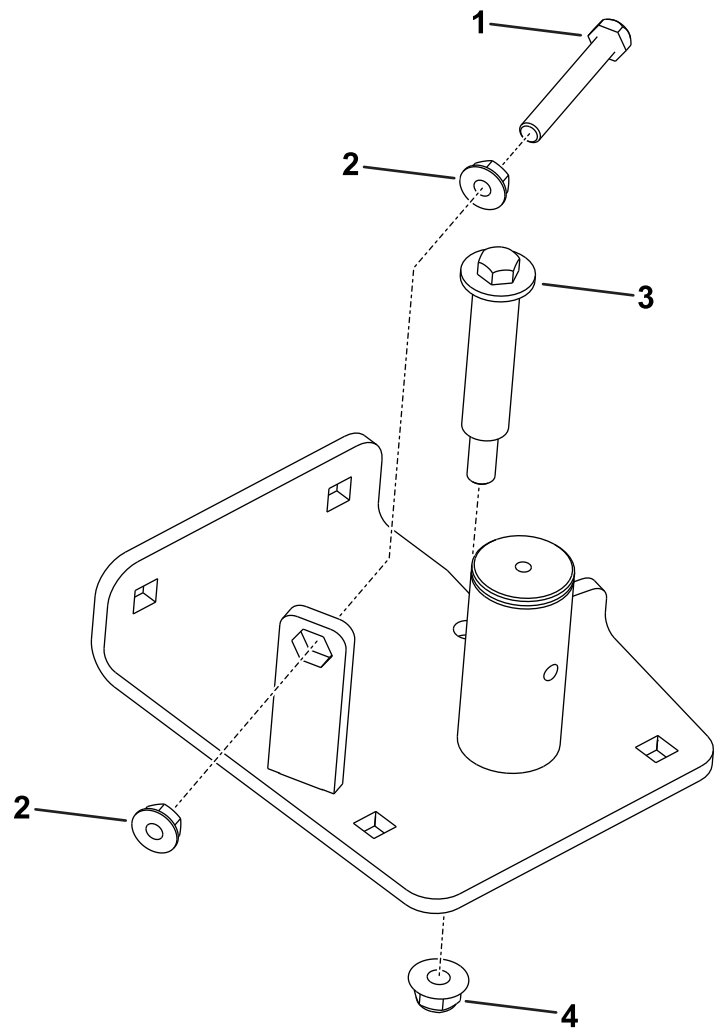

Figure 5
1. Use 2 flange nuts (5/16 inch) to secure the hex bolt to the new idler pivot assembly (Figure 5).
5. Install a flange nut (3/8 inch) and a shoulder bolt to the idler pivot plate (Figure 5).